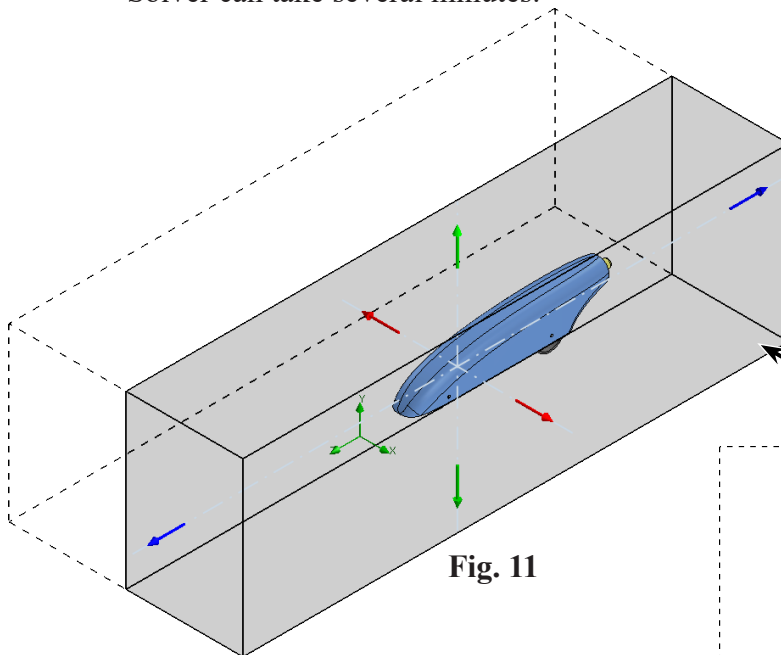

Fig. 11
Step 5. Click Front  on the Views toolbar (Ctrl-1). Use Z key to zoom out to view domain, Fig. 11.